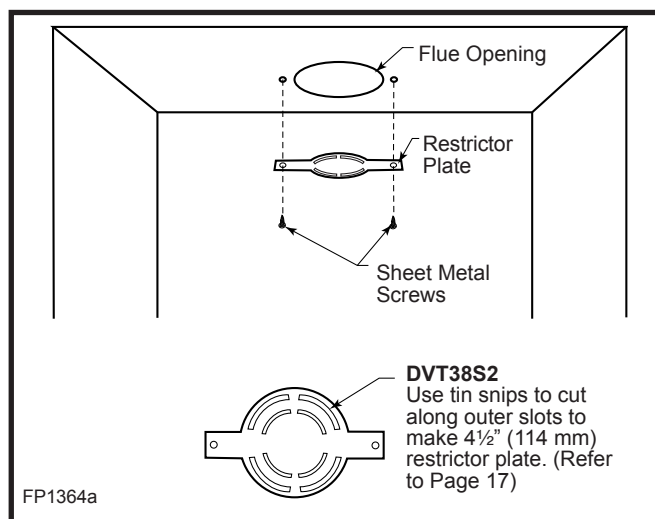
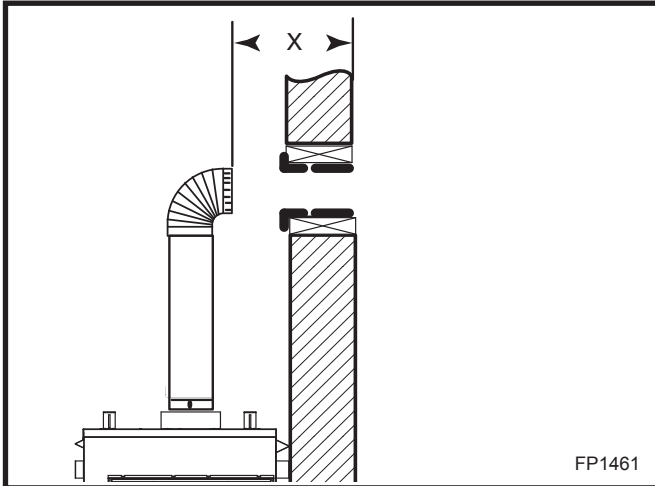
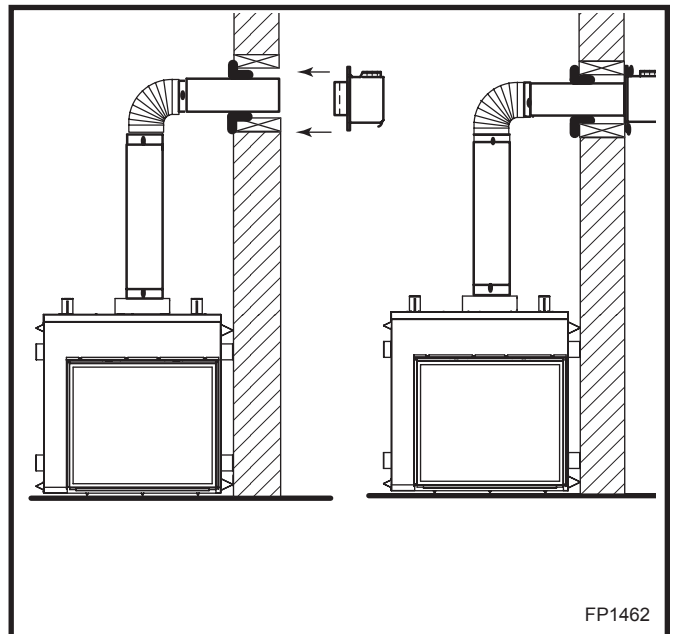

Fig. 28 Restrictor plate location.
Fig. 29 Flue restrictor plate use in straight up installation.
Fig. 32 Restrictor plate use with horizontal offset.
Using the two (2) screws provided along with the flue restrictor plate shipped with the logset, fasten the restrictor plate to the firebox top through the front of the unit. (Fig. 28)
plicable. When using the unitized 30°, 45° or 90° elbows, apply 1/4" bead of high temperature, 550°F or higher, sealant (milpack or stove cement) to the joint of the inner pipe (flue pipe) and the straight section as it is impossible to be taped. The outer pipe must be taped with 315°F high temperature metal adhesive tape for proper sealing. For vertically venting either propane or natural gas units, with vertical vent heights of 12' (3.7m) or greater, (measured from the top of the flue collar) the flue restrictor plate as supplied with this unit should be used. (Fig. 29) Refer to Figure 28 for flue restrictor plate installation.
For vertical venting configurations that include a minimum vertical rise of 12' (3.7 m) and a maximum horizontal offset of 10' (3 m) the 4½" flue restrictor plate supplied with this unit should be used on LP unit only. (Fig. 32) Refer to Figure 28 for flue restrictor plate installation.